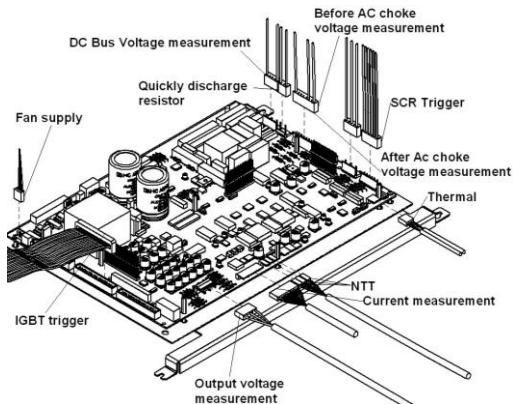

Figure 4.5. Disconnection of all Power Board wires..
- 2) Place the new Control Board on the hexagonal spacers **M3x20**, (*figure 4.5*)
Follow *figure 4.5* while reading these instructions: